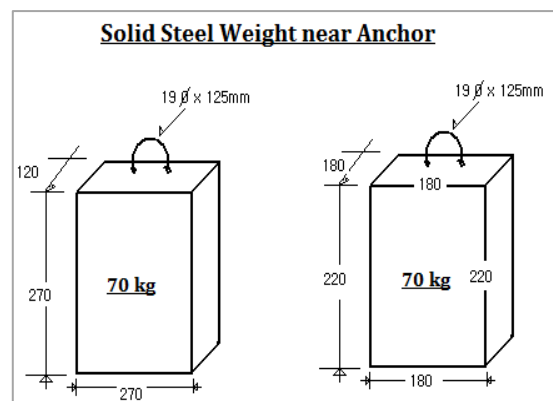

Figure 3 First weights dimensions
3) First weight: An additional weight to immobilize the downline, consisting of four 70kg steel weights that are attached to the downline just above the anchor (see Figure 3 for dimensions)